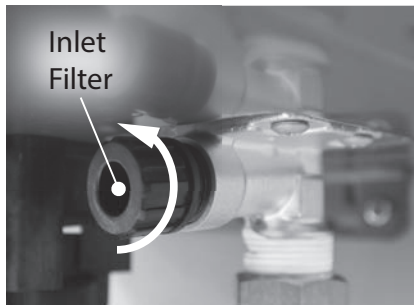

Figure 185 - Removing the inlet filter
- 7 Locate and remove the inlet filter as shown in Figure 185 to drain any residual water left in the system. Place a bucket or pan underneath inlet filter to collect water during removal.